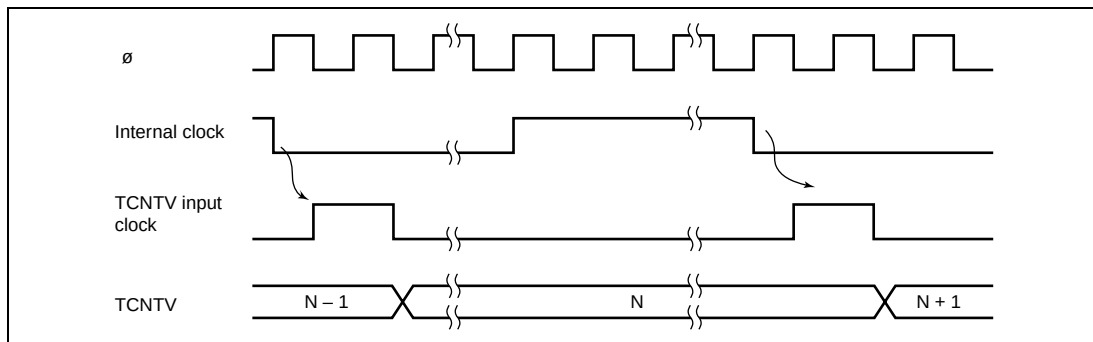
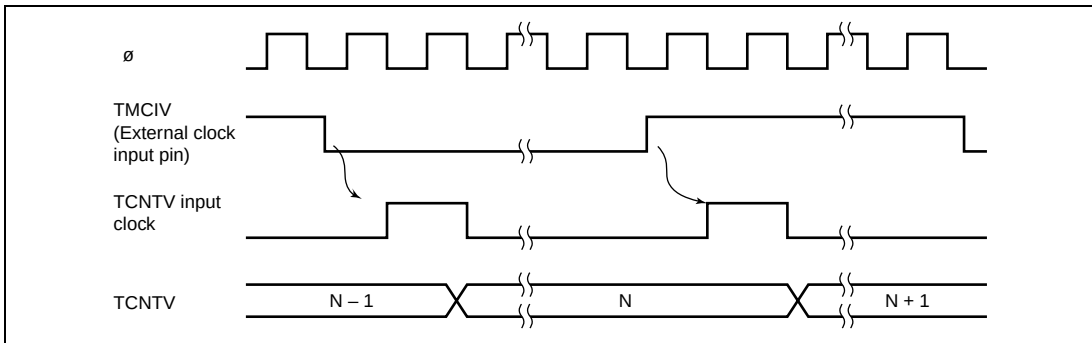

Figure 10-2 Increment Timing with Internal Clock
Figure 10-3 Increment Timing with External Clock
1. According to table 10-2, six internal/external clock signals output by prescaler S can be selected as the timer V operating clock signals. When the operating clock signal is selected, TCNTV starts counting-up. Figure 10-2 shows the count timing with an internal clock signal selected, and figure 10-3 shows the count timing with both edges of an external clock signal selected.
4. Depending on the timing, TCNTV may be incremented by a switch between different internal clock sources. When TCNTV is internally clocked, an increment pulse is generated from the falling edge of an internal clock signal, that is divided system clock (ϕ). Therefore, as shown in figure 10-3 the switch is from a high clock signal to a low clock signal, the switchover is seen as a falling edge, causing TCNTV to increment. TCNTV can also be incremented by a switch between internal and external clocks.